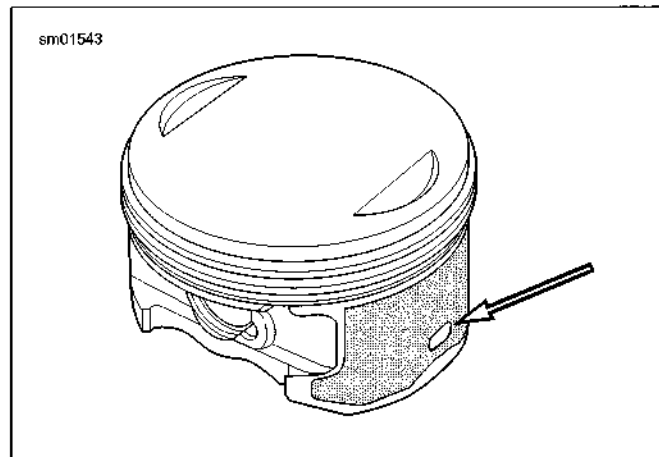

Figure 3-50. Measurement Area
- See Figure 3-50. The measurement is taken on bare aluminum to avoid measuring errors. An oval-shaped opening in the coating is present on each side of the piston for placement of the micrometer.